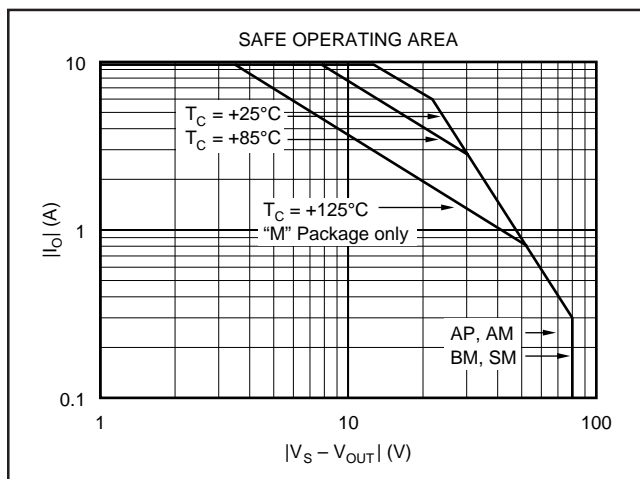

FIGURE 1. Safe Operating Area.
NOTE: (1) SOA is the Safe Operating Area shown in Figure 1. (2) Plastic package may require insulator which typically adds $1^\circ\text{C}/\text{W}$.
The safe operating area (SOA) plot provides comprehensive information on the power handling abilities of the OPA541. It shows the allowable output current as a function of the voltage across the conducting output transistor (see Figure 1). This voltage is equal to the power supply voltage minus the output voltage. For example, as the amplifier output swings near the positive power supply voltage, the voltage